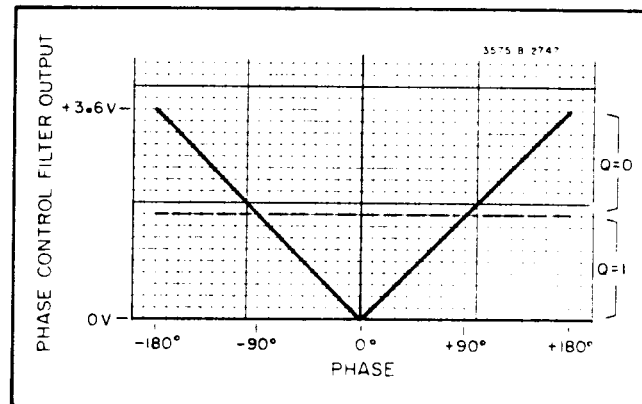

Figure 4-4. Phase Control Filter Output.
4-33. The two signals applied to the Exclusive OR gate in the "Q" Phase Detector are A' and B_d'. The output of the Exclusive OR gate (designated P3) is high (1) when A' and B_d' are in opposite states (one high, one low) and low (0) when they are in identical states (both high, both low). The width of the output pulses, therefore, represents the magnitude of the phase difference between the two signals. The Exclusive OR output is applied to a Differential Amplifier which provides the voltage swing required to gate on and gate off the Constant Current Source. The pulsating dc from the Constant Current Source is applied to the Buffer/Integrator which, like the Buffer/Integrator in the Phase Detector, serves as an impedance converter, an inverter and high frequency integrator. The output of the Buffer/Integrator is applied to the Phase Control Filter which detects the average value of the pulse train and provides a dc output voltage proportional to phase magnitude. Figure 4-4 is a graph showing the voltage level vs. phase at the output of the Phase Control Filter. This voltage is applied to a Threshold Detector (A11IC9) which